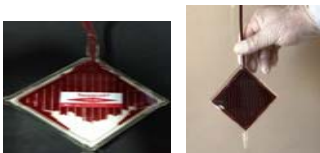

Figure 7
4. Blood flows into the filter (Figure 7).